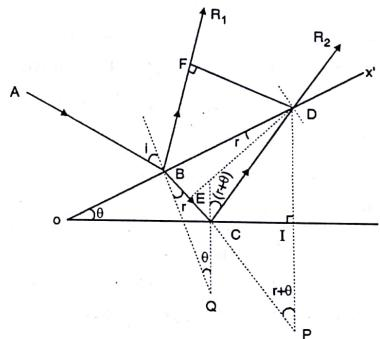

Fig. 1.7.1 : Interference in wedge shaped film
- Consider a film of non-uniform thickness as shown in Fig. 1.7.1. It is bound by two surfaces OX and OX' inclined at an angle θ . The thickness of the film gradually increases from O to X.